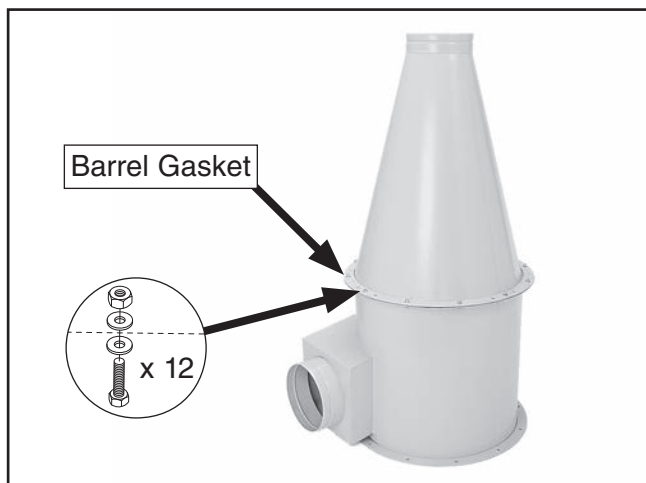

Figure 8. Cyclone funnel attached to intake barrel.
5. Attach cyclone funnel to intake barrel with barrel gasket between them, as shown in **Figure 8**, with (12) $\frac{5}{16}$ "-18 x 1" hex bolts, (24) $\frac{5}{16}$ " flat washers, and (12) $\frac{5}{16}$ "-18 hex nuts.